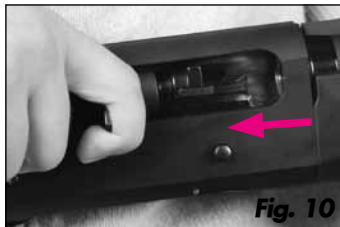
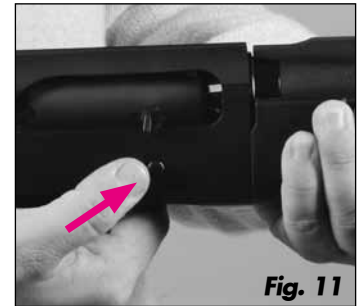

Fig. 10
Fig. 11
1. Make sure that the firearm is not loaded by opening the bolt with the bolt handle (Fig. 10) inspecting the chamber and magazine than closing it again by pushing the bolt release button (Fig. 11).